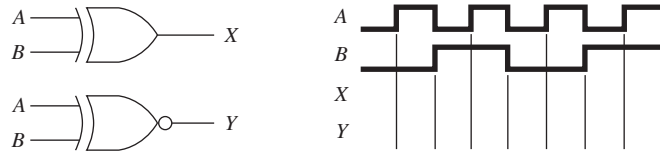

Figure P3
3. Complete the timing diagram in Figure P3 for the exclusive-OR and the exclusive-NOR.